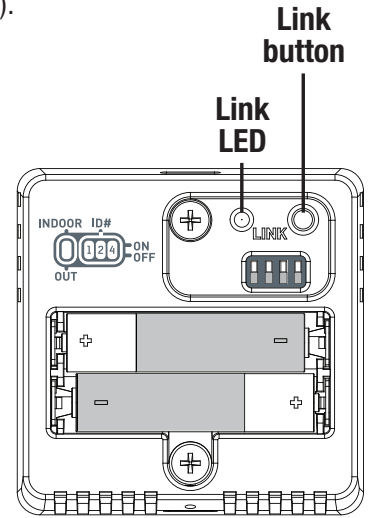

fig. 3
3. Install 2AAA batteries with the polarity as indicated on the PSPAC-WFMS housing. (see fig. 3).
4. Press and hold the Link button (see fig. 3) until the Link LED starts to flash.